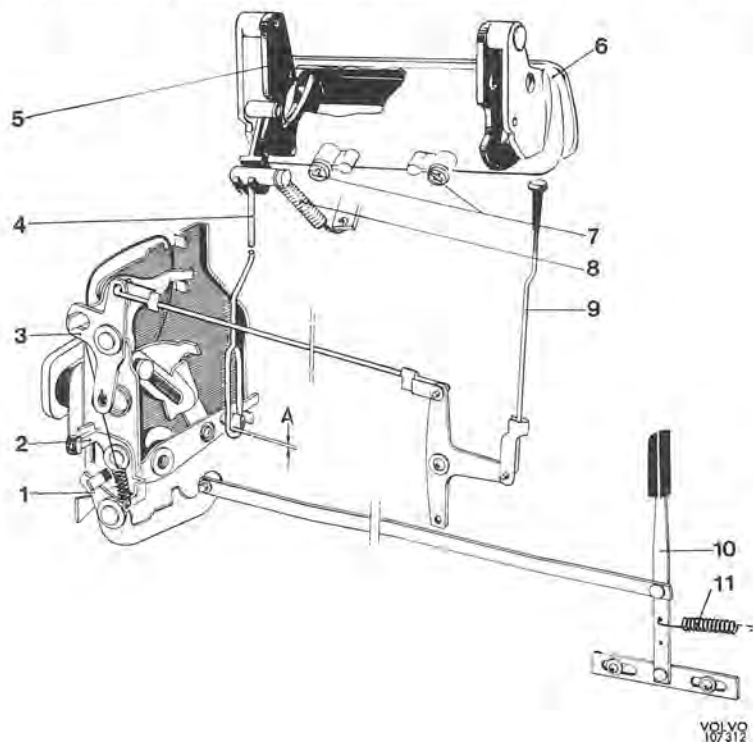

Fig. 8-15. Lock, rear doors
3. Unhook the return spring (8, Fig. 8-15).
4. Undo the screws (7, Fig. 8-15) and lift out the handle and cover as one unit.
1. Place the handle in position in the door and move the pull rod (4, Fig. 8-15) in the lifting arm for the handle.
2. Screw in the attaching screws (7, Fig. 8-15).
3. Check to make sure that there is a clearance (A, Fig. 8-15) of $1 \pm 1 \text{ mm}$ ($0.04 \pm 0.04''$) between the pull rod eyelet and pin in the lock lever.
4. Install the return spring (8, Fig. 8-15) and check that the lock functions properly.